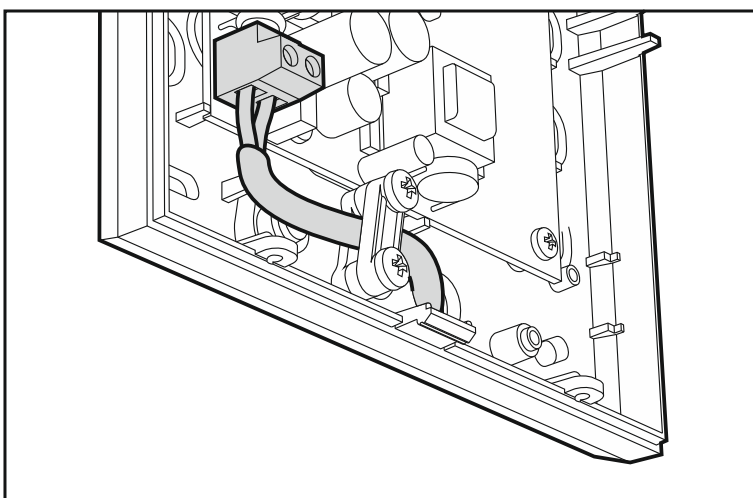

Fig. 2. Connecting the power wires.
14. Attach the power wires to the corresponding screw terminals: the phase wire to L terminal, the neutral wire to N terminal (secure the cable using the element specially provided for this purpose – see Fig. 2).